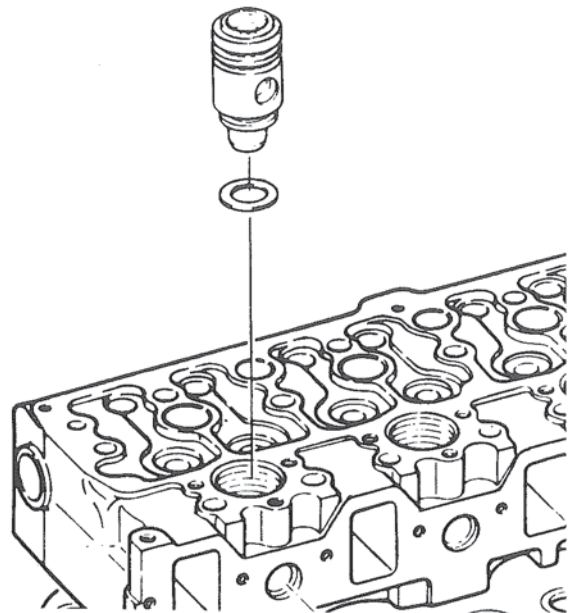

Figure 35. Precombustion Chamber Assembly.
- A. Place gaskets on seat in cylinder head. Figure 35.